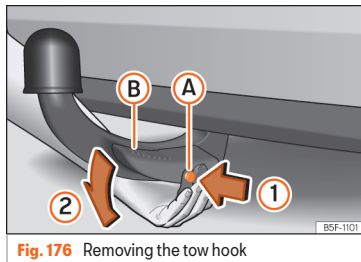

Fig. 176 Removing the tow hook
- Press the release bolt (A) in the direction of arrow (1), and at the same time press lever (B) as far as it will go in the direction of arrow (2) »»» Fig. 176.